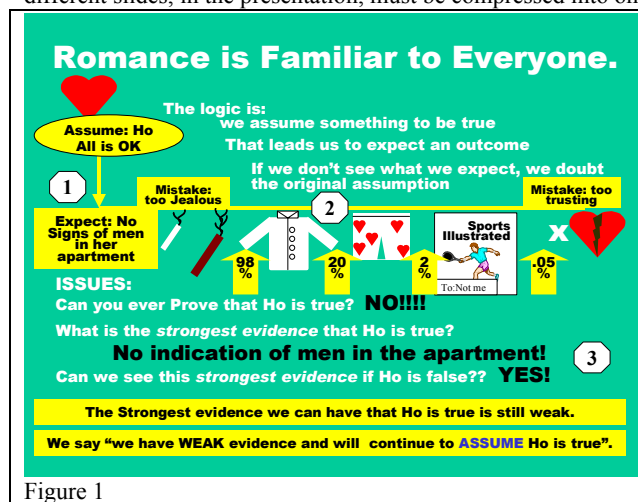

Figure 1
In this example (Figure 1) Harry is in a relationship and assumes that all is fine.  $H_0$  is that “things are fine”.  $H_a$  is that Harry has romantic problems. Note that nature/reality (A.K.A. Harry’s love life) is in either one or the other situations, not both. Also note
Believing Ho to be true leads Harry to make certain predictions about what he will see in nature/reality. Ho leads Harry to expect reality to be [Label (1) in Figure 1] "no signs of men" in Sue's apartment. When Harry observes things in nature/reality (or informally, her apartment), that differ from his expectation Harry, will doubt the truth of Ho. Under the horizontal line [Label (2) in Figure 1] we see a list of incidents that are (left to right) increasingly different from Harry's expectation (under Ho being true).
We use Figure 1 to look at Harry's romantic life over time. Please look to the details of Figure 1 for the issues Poor Harry must handle. Figure 1 shows Harry went over one day and found a cigarette in the ashtray, and Sue does not smoke. This is not what Harry expected, but not *too far* from what he expected. Harry is trusting. He continued to assume Ho and did not start a fight.
Can Harry ever prove Ho is false? Yes he can! There is a picture (modestly hidden under the X in Figure 1) that is so outrageous that it will "not be seen in nature if Ho is true". We can imagine (and I leave that task to the reader) the existence of fairly strong evidence that Ho is false. Evidence going counter to Ho can be very strong. We can, when we see that strong counter evidence, reject Ho and be pretty certain we are making the correct decision. Evidence against Ho can be strong so we can say "we *conclude* Ha is true" or "we can *prove* Ha to be true".
What does statistics do for us, since we have all known this logic since we were adolescents? Statistics can tell us the *chance* of our being wrong when we make a decision. When Harry rejects Ho and concludes Ha, Harry is going to start an argument. He's going to make accusations and get a bit loud. If he's wrong he's going to have to apologize, buy roses, do laundry and several other things that he doesn't really enjoy. Statistics (and a situation that has numbers and uses statistical formulas) would let Harry reject Ho, and *have an idea of how likely it is that he is wrong*. Figure 1 has several gold arrows. These arrows show (very roughly) how often Harry might be "wrong" if Harry were to see the pictured event and start to make accusations.